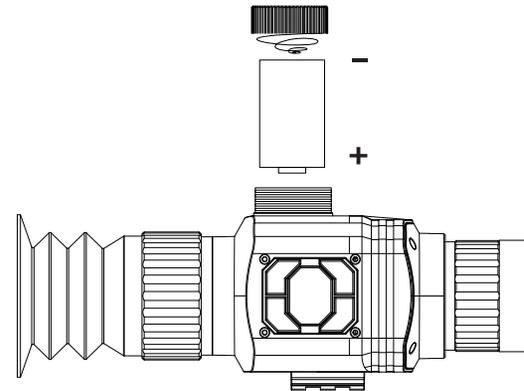

figure 1
2. Install the lithium battery: put the battery into the battery compartment with the negative electrode facing outwards as shown in figure 1.